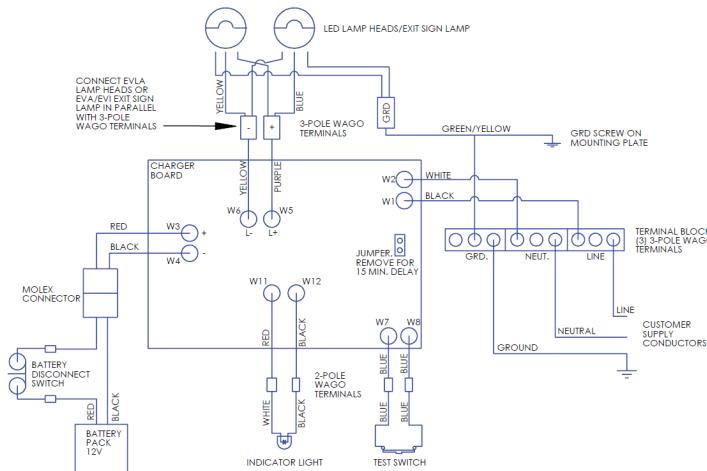

Figure 3. Wiring Diagram
14. Connect the blue lamp lead to the purple (L+) charger board lead via the 3-pole Wago terminal and connect the yellow lamp lead to the yellow (L-) charger board lead. See figures 3 and 4.
EDS2129 or EDSC2129 – Designated Disconnect Remote Mounted (not supplied). Install per the instructions supplied with the EDS2129 or EDSC2129 disconnect. Wire in series according to the wiring diagram in Figure 3 by cutting the red battery lead wire and attaching a listed wire connector to both ends (rated 300V minimum) for connection to disconnect switch lead wires. See Step 16 to continue supply wiring.